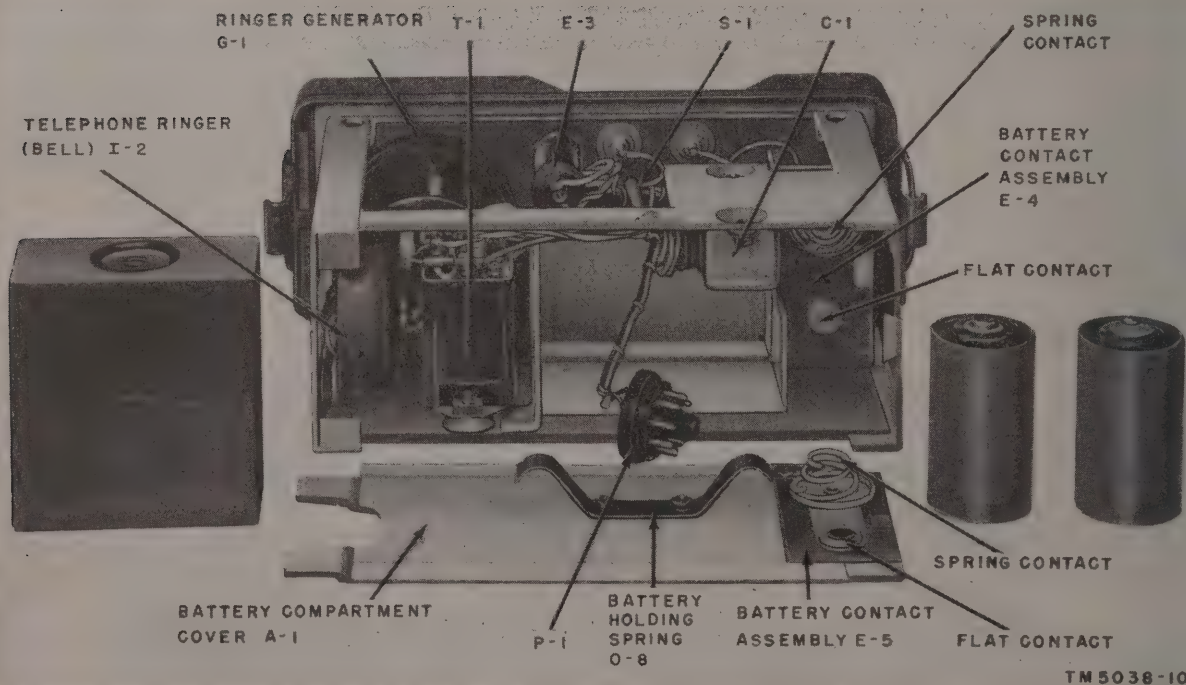

Figure 62. Remote Control C-433/GRC, rear view of chassis.
d. Install two 1½-volt Batteries BA-30 in the compartment provided for them in the left rear of the chassis frame (fig. 62). Install one battery in the compartment so that the bottom of the battery outer case (negative electrode) rests over the spring contact on the battery compartment floor. Install the second battery so that the center post (positive electrode) of the battery rests on the flat contact of the battery compartment floor.
1) to the BELL position (fig. 62) if audible indication of the ringing signal is desired. Set this switch to the LAMP position if a visual indication of the ringing signal is desired.